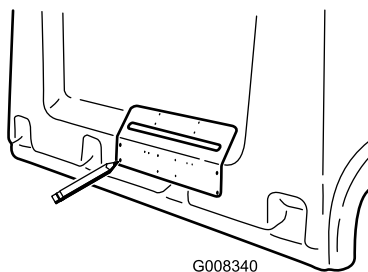

Figure 2
2. With the mounting plate positioned on the hood, use it as a template to locate and mark the (4) corner holes which will be used for mounting the plate (Figure 2)